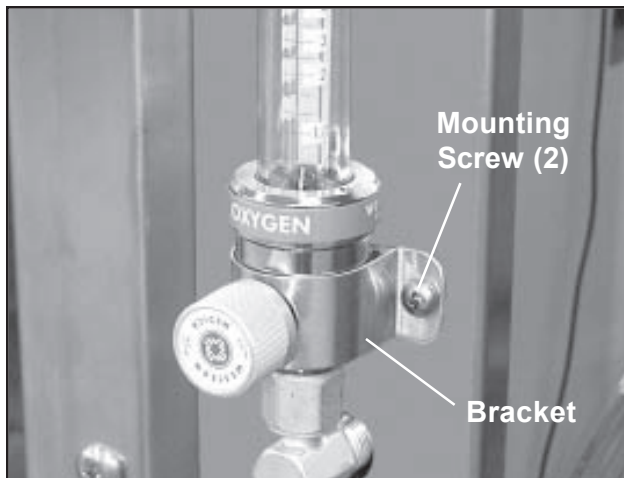

Figure 137. Oxygen Flow Meter Mounting Screws/Nuts
8. With a Phillips screwdriver and a 3/8-in. wrench, remove the two screws/nuts that hold the flow meter bracket to the unit (Figure 137).
1. Mount the flow meter and support plate to the unit and secure with the two screws/nuts (Figure 137).